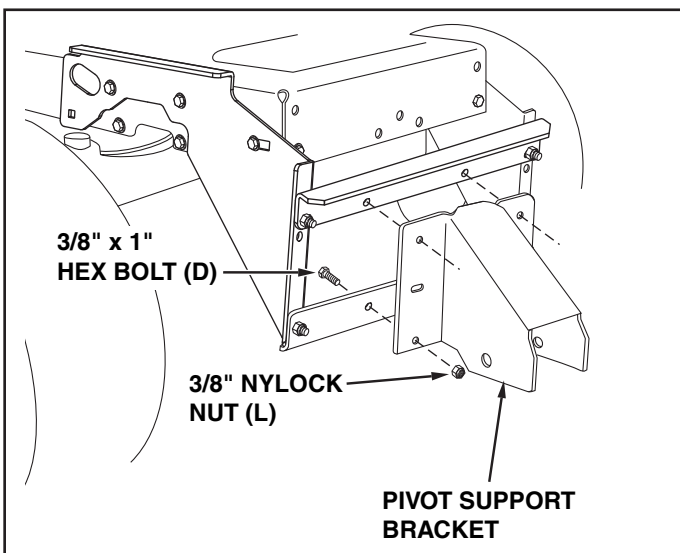

FIGURE 10
STEP 2: (SEE FIGURE 10)
- Assemble the pivot support bracket to the angle support brackets using four 3/8" x 1" hex bolts (D) and four 3/8" nylock nuts (L). **Do not tighten yet.**